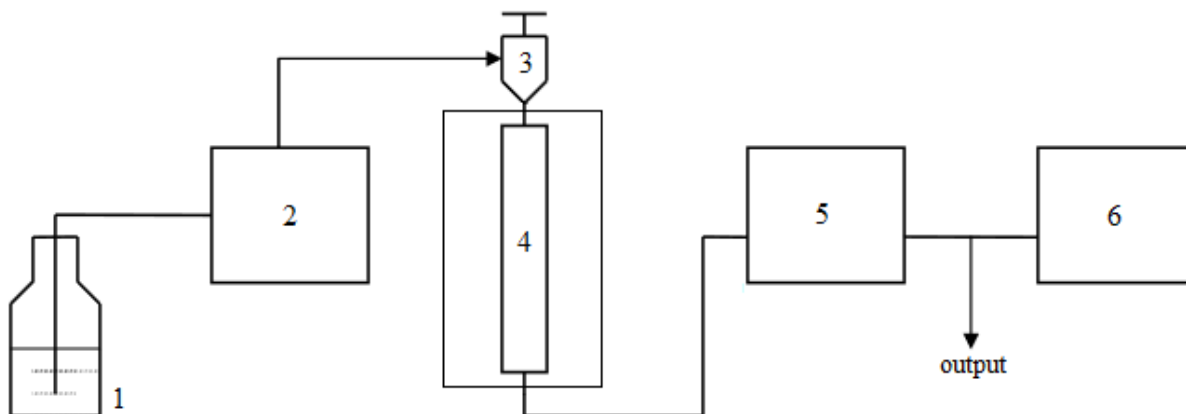

Fig. 92: Liquid Chromatograph Diagram
A liquid chromatograph (LC) consists of the following elements (Fig. 92):